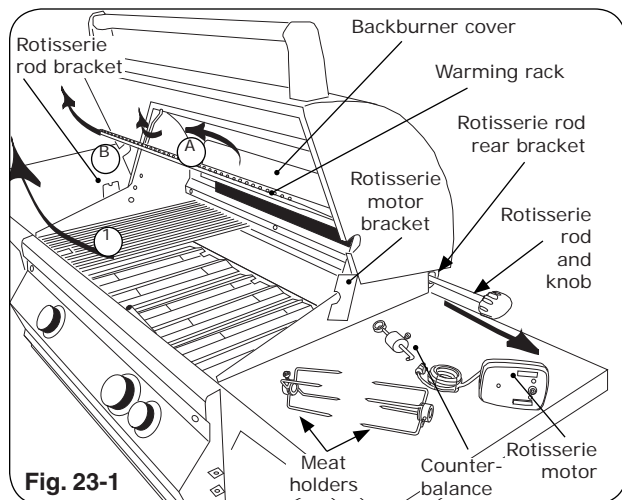
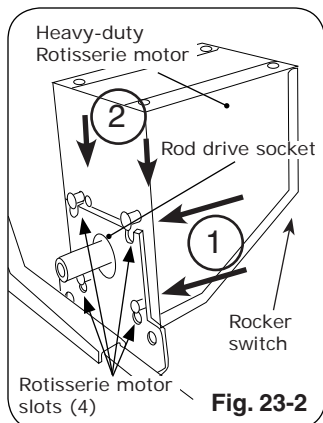
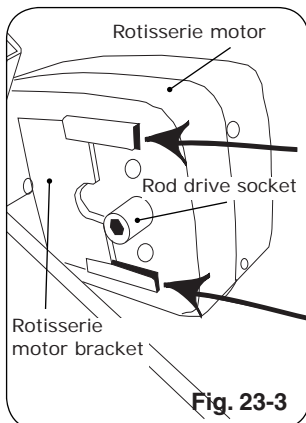

Fig. 23-1
Fig. 23-2
Fig. 23-3
2. Slide rotisserie motor fully onto motor bracket (right side, Fig. 23-2 or Fig. 23-3, and Fig. 23-1).
3. Remove rotisserie rod from rear bracket (Fig. 23-1) and attach knob if necessary.